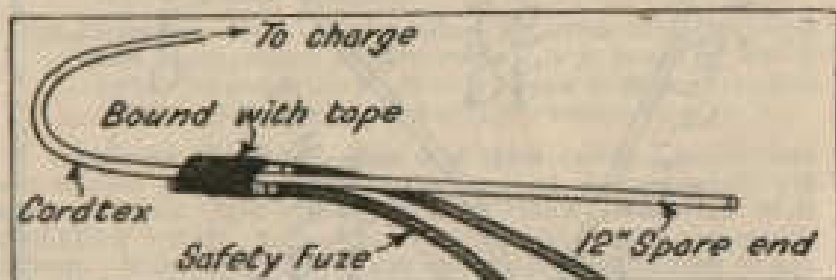

Fig 11. Initiation of cordtex (using 2 detonators to minimise risk of failure).
- (b) *Initiation.*—Cordtex can be initiated by one detonator, but for the reasons given in para 4 (r) above two detonators should normally be used each with its own safety fuse. Lash the detonators firmly to the fuse as shown in Fig 11. See that the detonators are in good contact with each other as well as with the detonating fuse. It is particularly important that the closed ends of the detonators are lashed on in good contact with the fuse. The smallest gap may well cause failure. In emergency one detonator and safety fuse may be used. Where the detonating fuse is suspected
2. Initiation.—Use an improvised initiating set composed of 1 ft of detonating fuse fired by two detonator assemblies with detonator, safety fuse and igniter (*see* Fig 11). Make these sets up previously with sealing tubes at both ends of the detonating fuse. In the 2-in torpedo Mk 1 a primer is required; this fits into a recess at the male end of the tube. In the 1½-in torpedo a special primer is already in position; it contains a hole for the detonating fuse.